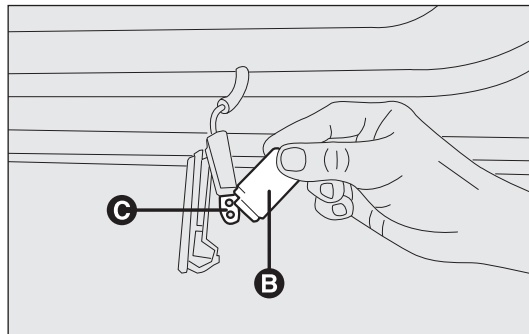

fig. 187
- press the sides of bulb shield B-fig. 187 on the two fastening pins and turn it;